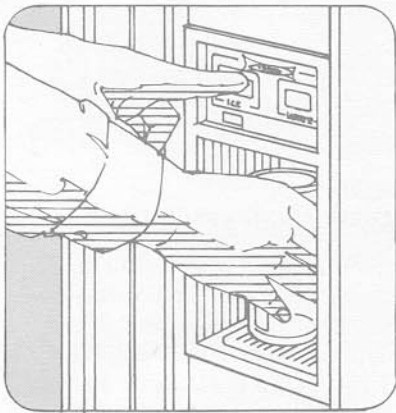
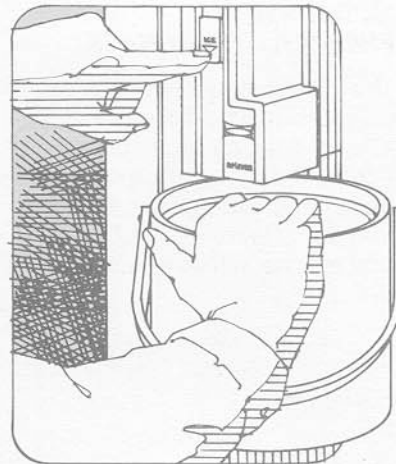

Figure 13
Figure 14
This automatic water and ice dispensing product offers the convenience of dispensing both chilled water and ice from the product without having to open the doors. See Figure 13.
The water dispenser operates as follows: To operate the water dispenser, the water dispenser switch must be depressed continuously for the required amount. This switch is located on the refrigerator door glasswell. See Figure 13. The very first time the water dispenser is operated, it will be necessary to flush and purge the water system and water storage tank **for three minutes**. This procedure will clear out any air in the system as well as any foreign material that occurs with a new plumbing connection in the home.
The ice dispenser operates as follows: To operate the ice dispenser, the ice dispenser switch must be depressed continuously for the required amount. This switch is located on the refrigerator door glasswell. See Figure 13.
The ice dispenser feature can deliver ice in two different ways: (1) By inserting a glass into the glasswell and then depressing the ice dispenser switch as in Figure 13, ice cubes will automatically dispense into the glass. (2) If a larger quantity of ice is required, open up the refrigerator door, position an ice container underneath the ice dispenser chute and then depress the button for bulk ice dispensing. See Figure 14.